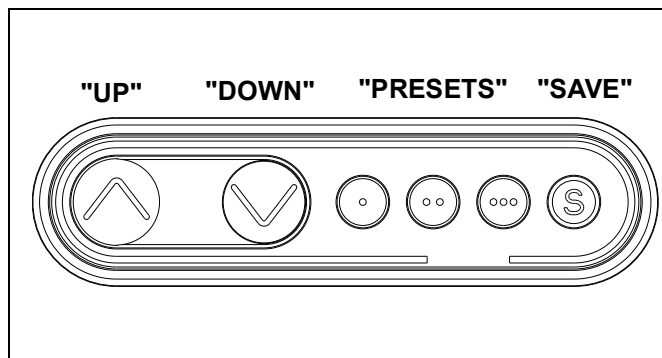

Figure 38
1. Press "UP" or "DOWN" buttons to raise or lower height as desired. (See Figure 38)
- Adjust height until desired preset level is reached using "UP" and "DOWN" buttons. (See Figure 38)
- Press "SAVE" button. (See Figure 38)
- Press one of three preset buttons (., .. or ...) to save preset position. (See Figure 38)